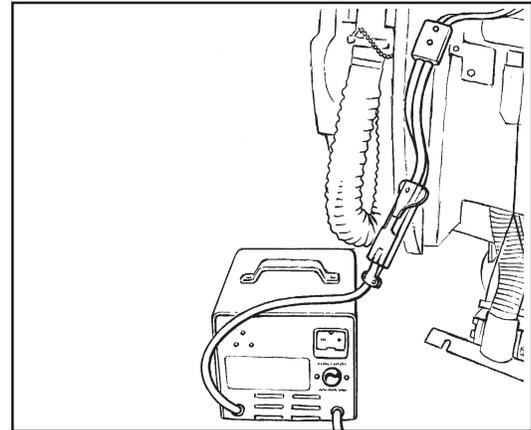

Figure 15
5. Connect the DC connector on the charger to the battery pack connector. See figure 15.